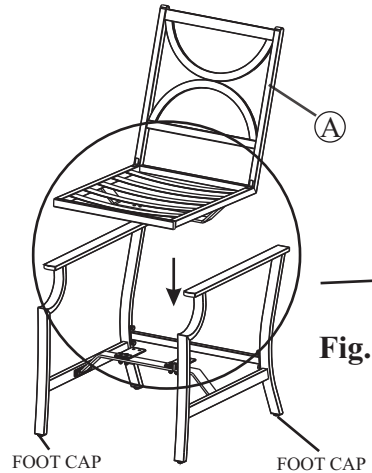

Fig. 3
Step 5: Set the chair frame on the rocker assembly with the front of the seat facing you and the arrows on the "U" bar pointing towards you as shown in Fig.3. This is very important for a safe, balanced rocking motion. **If chair frame has been properly positioned on the rocker assembly, all arrows on the "U" bar and rocker assembly will be pointing in the same direction.**